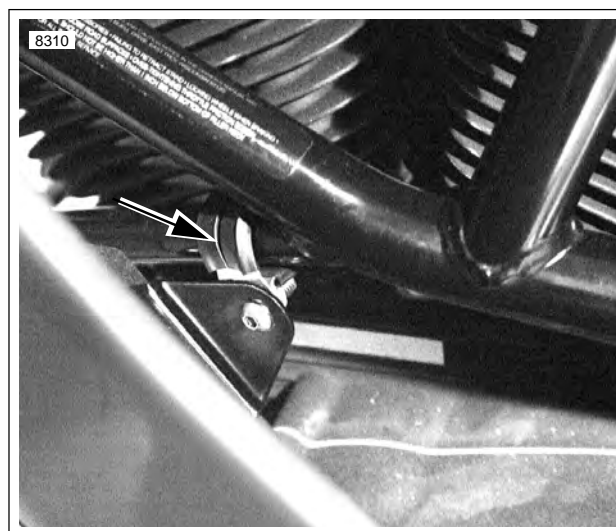

Figure 2-127. Left Fairing Lower Clamp
2. See Figure 2-127. Align clamp with metal bracket on fairing lower. Place nylon washer between clamp and metal bracket. Insert screw through clamp, nylon washer, metal bracket and opposite side of clamp. Fasten with locknut.